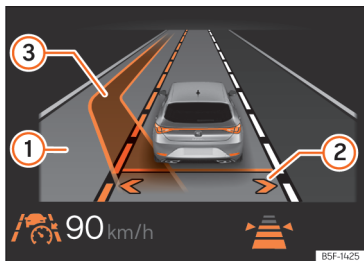

Fig. 148 On the instrument cluster screen: lane change assist display (schematic representation).
This activates the lane assist. The arrows of your own lane on the instrument cluster display are grey »» Fig. 148 ②